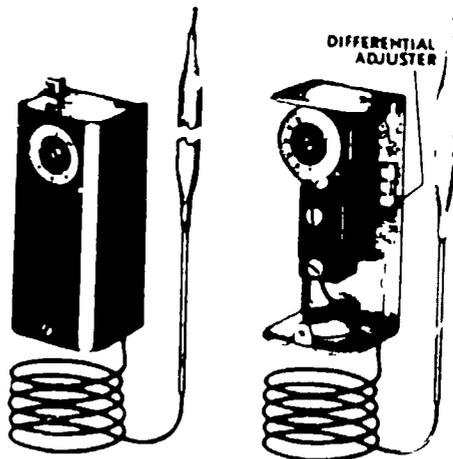

Figure 4. Remote Bulb Thermostatic Motor Control
1. Adjust the control to maintain an average box temperature of 30° with a differential of 10° (figure 4).
4. Replace cover (see figure 4).
- 4. Assemble the knob and lock plate for range adjustment (see figure 4).